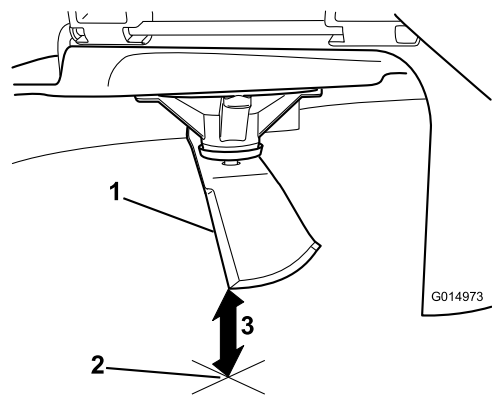

Figure 112
3. Measure from the tip of the blade to the flat surface (Figure 112).